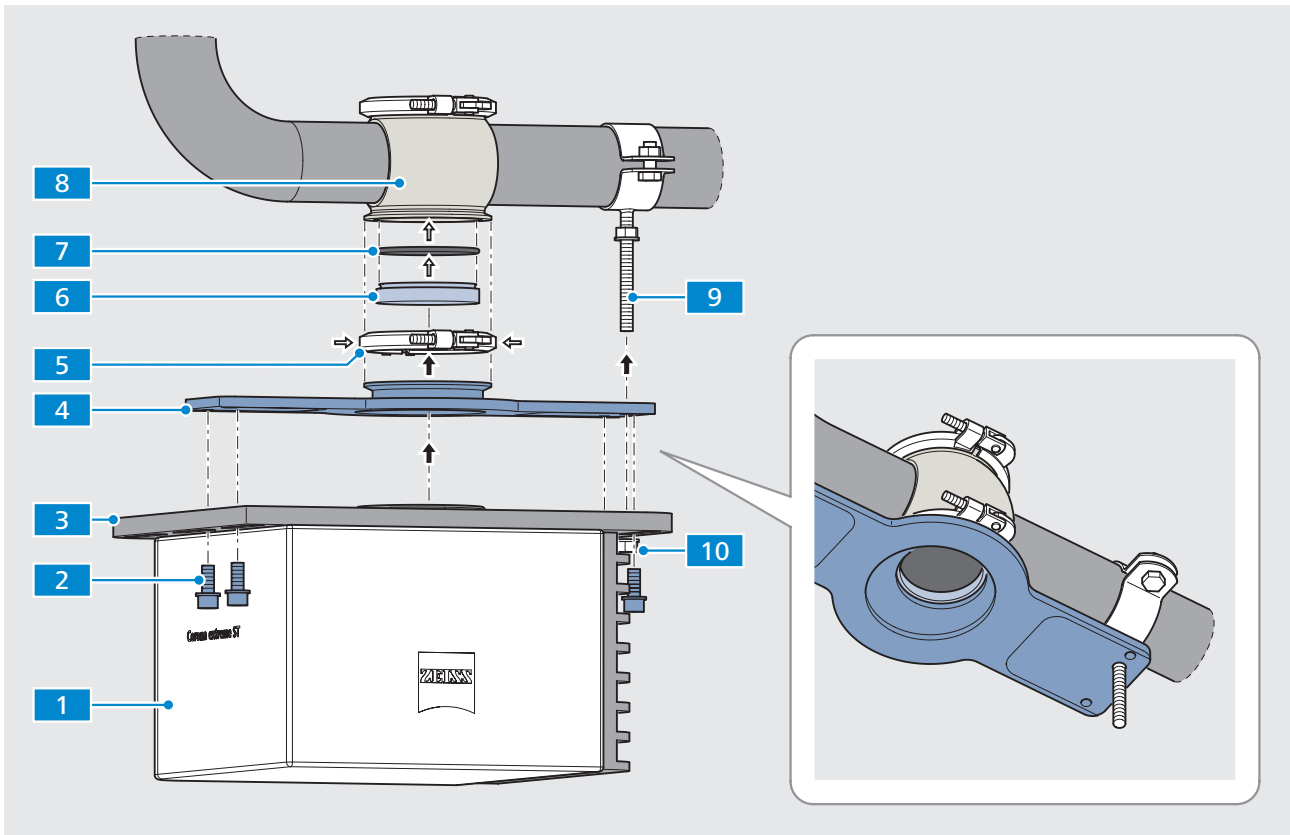

Fig. 11 Mounting the **Corona extreme** with flange for GEA pipes
- Prepared customer mechanical interface (see Fig. 11 on page 25)
- 2 Attach a suitable pipe clamp **9** to the pipe. The distance to the GEA VARINLINE housing **8** should allow the pipe clamp's threaded rod to fit exactly in the clearance hole (see magnifying glass in Fig. 11 on page 25).